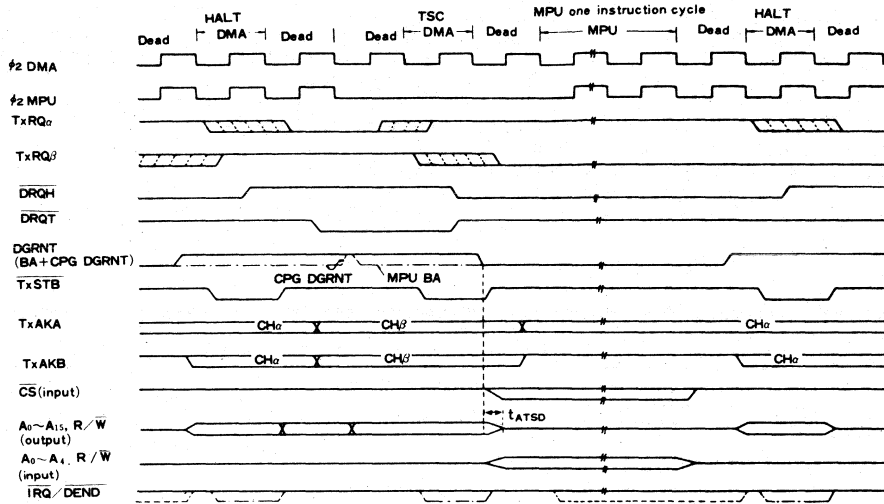

Figure 25 Channel Change (HALT Mode → TSC Mode → HALT Mode)
- (3) From HALT mode to TSC mode } (Fig. 25)
- (4) From TSC mode to HALT mode }
Both in the case of HALT → TSC mode and in the case of TSC → HALT mode, DMA operation timing is based on the same idea as the above two kinds of mode change. (In detail, see Fig. 25).